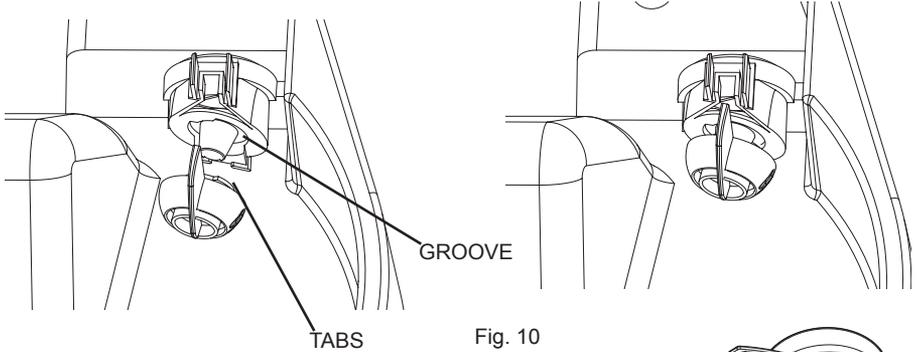

Fig. 10
4. Join the flow control knob and stator together by placing the tabs of the knob into the groove of the stator (Fig. 10).